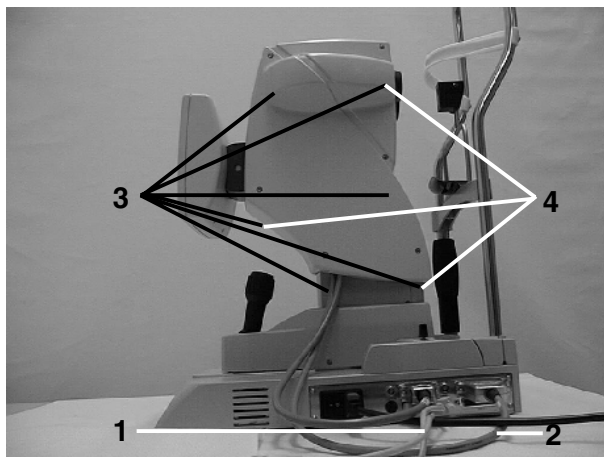

Fig. 5a
- Unplug two connectors ((1 and 2) Fig. 5a) from the IOLMaster head and the computer.
- Remove six screws ((3) Fig. 5a) from one side and remove the cover.
- Remove three screws ((4) Fig. 5a) from the other side and remove the cover.
- Re-establish connections ((1 and 2) Fig. 5a).